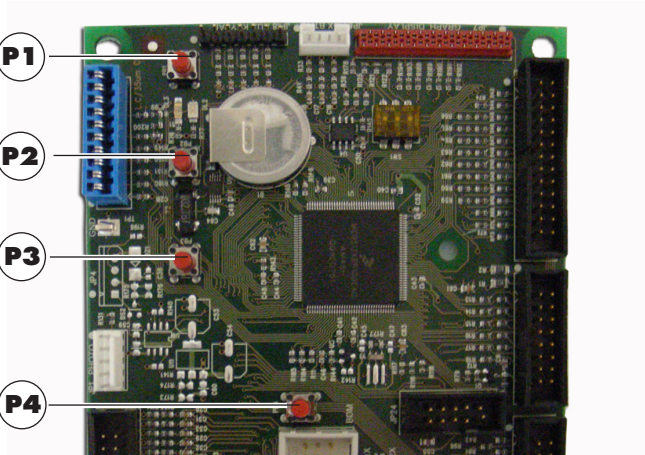

Fig. 44
The CPU electronic card has 4 keys enabling the Maintenance Technician to carry out programming or maintenance operations (Fig. 44).
- press the **P2** key (Fig. 44) to enter the maintenance menu;